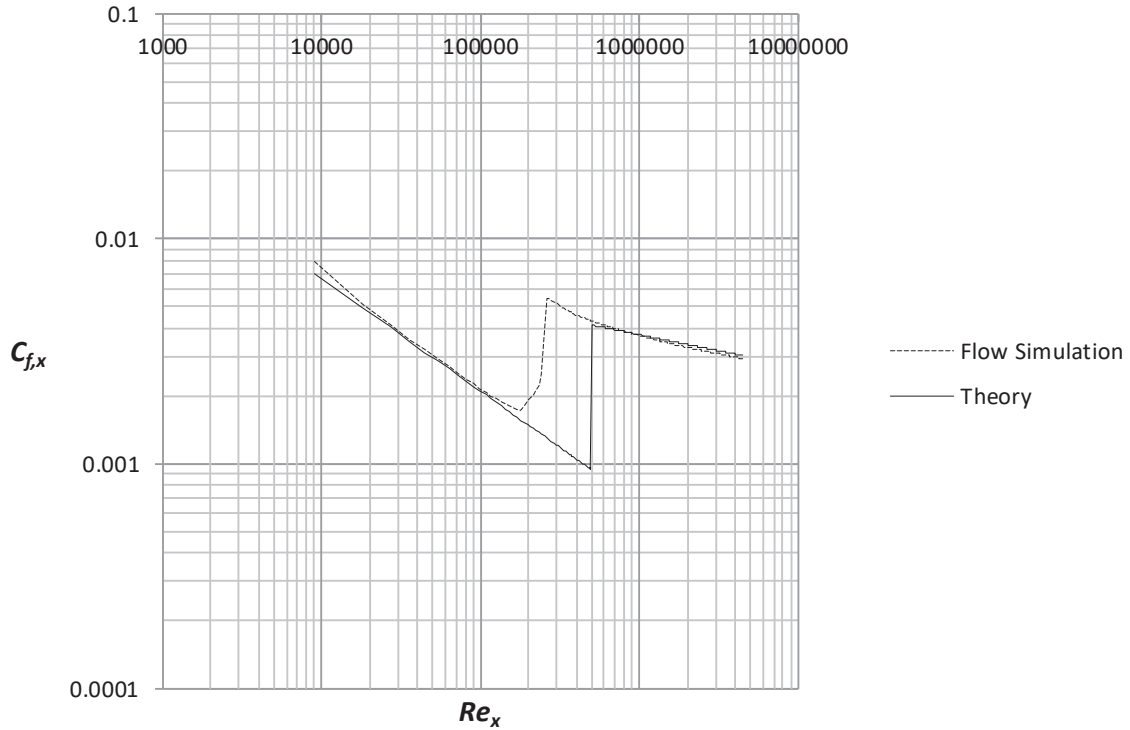

Figure 2.32 Flow Simulation (dashed line) and theoretical turbulent friction coefficients
32. Place the file “**graph 2.32**” on the desktop. Repeat step **24** and choose the sketch **$x = 0 - 0.9$ m**, uncheck the box for **Velocity (X)** and check the box for **Shear Stress**. Rename the xy -plot to **Local Friction Coefficient for Laminar and Turbulent Boundary Layer**. An Excel file will open with figure 2.32. Figure 2.32 shows the Flow Simulation is able to capture the local friction coefficient in the laminar region in the Reynolds number range 10,000 – 200,000. At Re slightly less than 200,000 there is an abrupt increase in the friction coefficient caused by laminar to turbulent transition. In the turbulent region the friction coefficient is decreasing again but the local friction coefficient from Flow Simulation is significantly lower than empirical data.